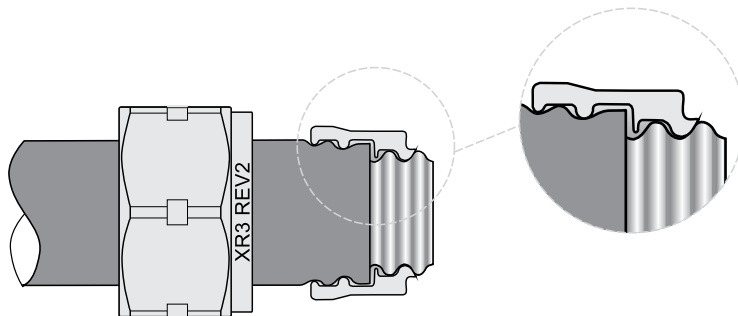

Fig. 4-9
STEP 1 CUT-TO-LENGTH (FIG. 4-9)